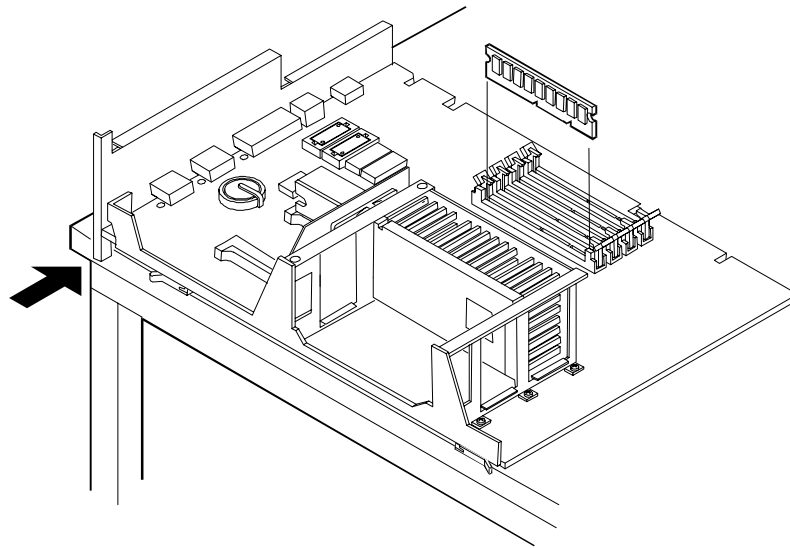

Figure 5-5. Installing DIMMs in System Board
3. Position the system board flat and component side up on an anti-static surface. Ensure that the corner clears the table surface, as shown in Figure 5-5.